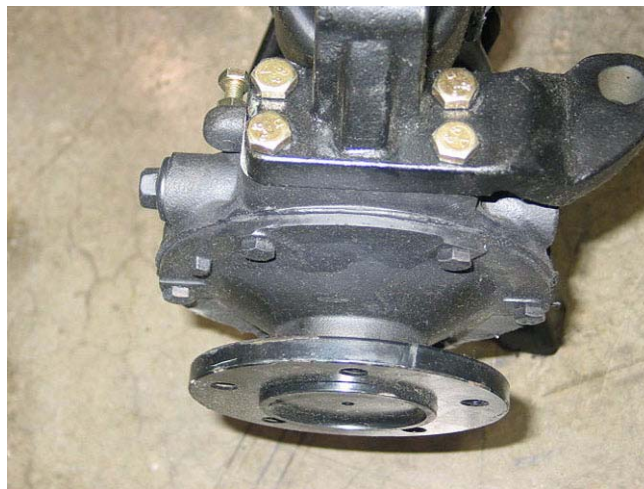

Figure 1.8
- 1.8. The Series 5000 MFD is wider than the Series 7000 MFD. While the main castings are the same, the outside edge (measured at the top) of the axle flanges on the 7000 are 2" (5 cm) out-board of the seam where the axle cover meets the drop axle housing. See Figure 1.8.